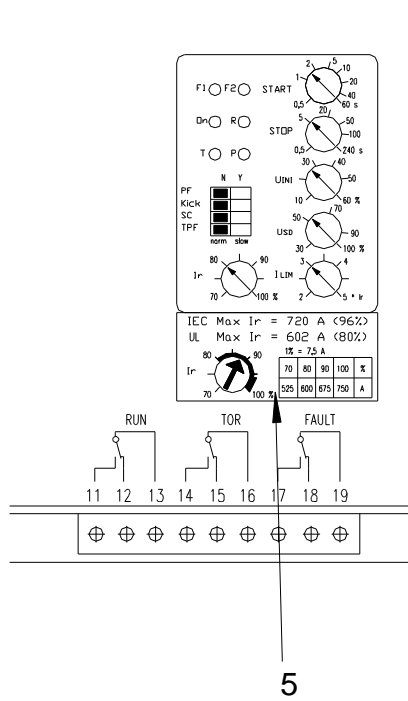

Fig3.
- _ Change the marking plate (see fig 3).